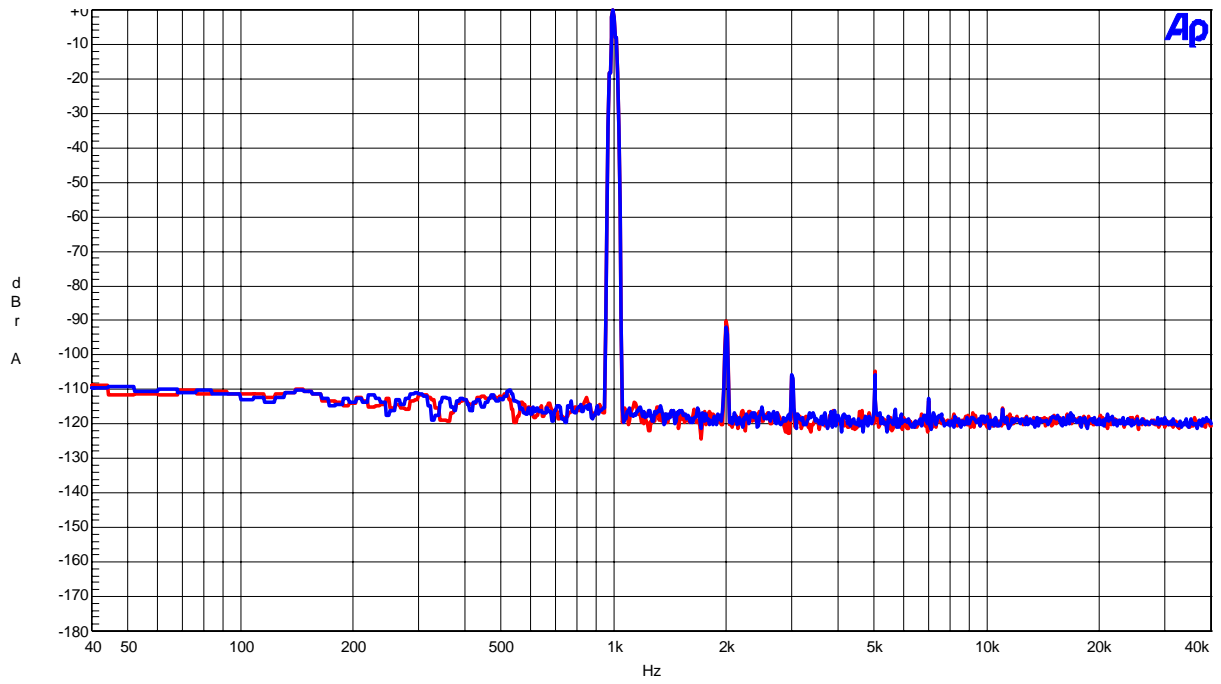

Figure 17. FFT(Input Frequency=1kHz, Input Level=0dBFS)
- Figure 17. FFT (Input Frequency =1kHz, Input Level =0dBFS)